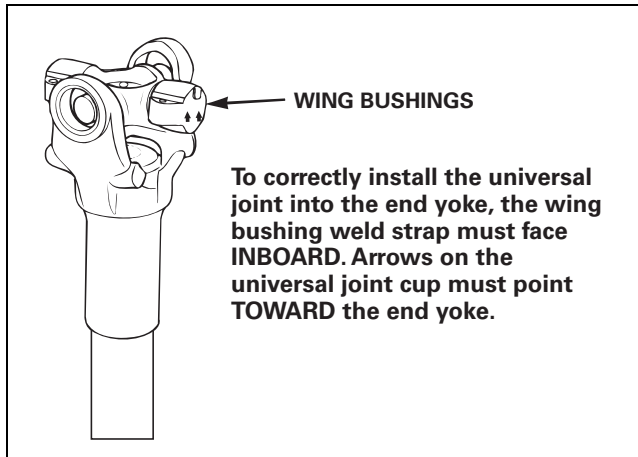

Figure 4.30
2. Install the universal joint into the yoke so that the wing bearing weld straps face **INBOARD** and the arrows point toward the end or coupling yokes. Figure 4.30.